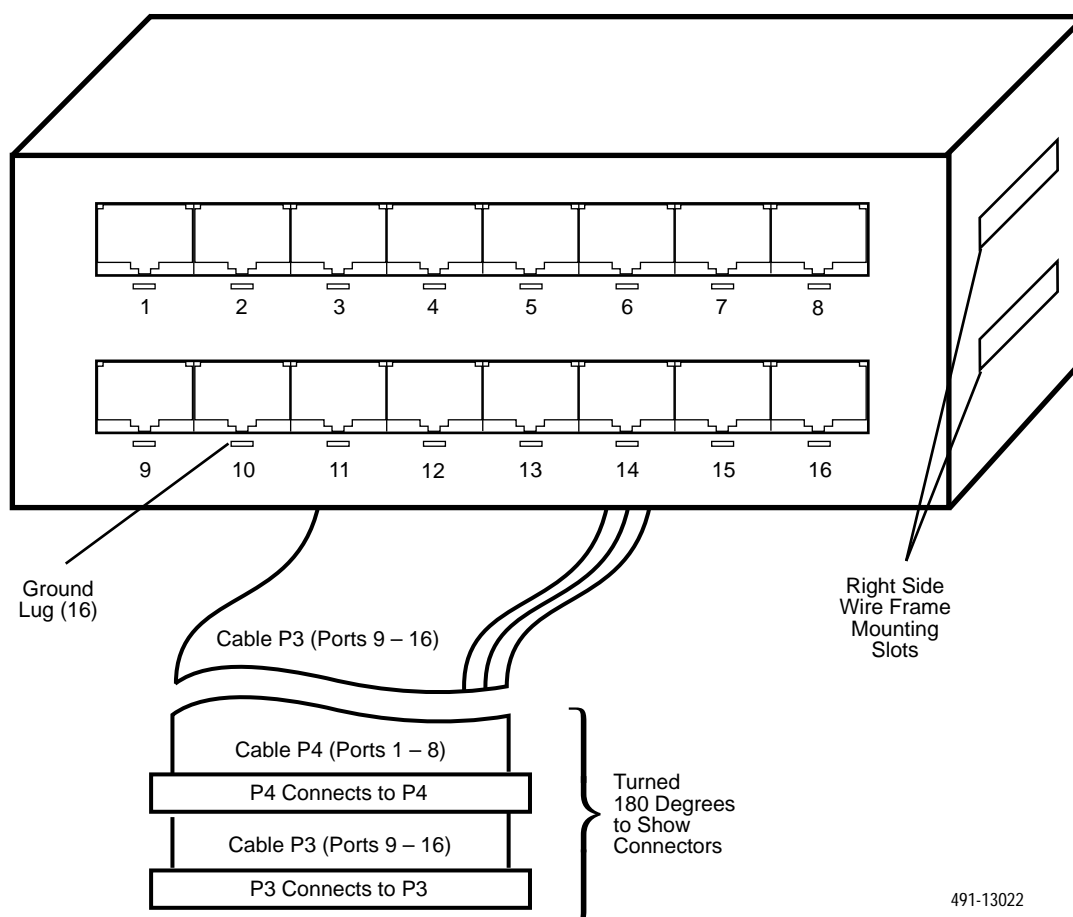

Figure 2-11. 16-Port Cabinet Assembly
1. Locate the two 80-conductor ribbon cables and the 16-port cabinet assembly, as shown in Figure 2-11.